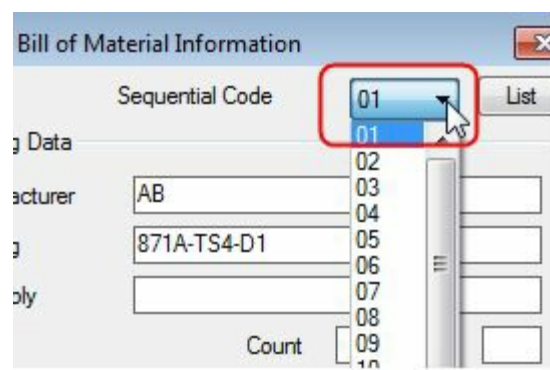

Figure-11. Sequential Code drop down
- Click on the **Sequential Code** drop-down and select **02** from the list displayed; refer to Figure-11.